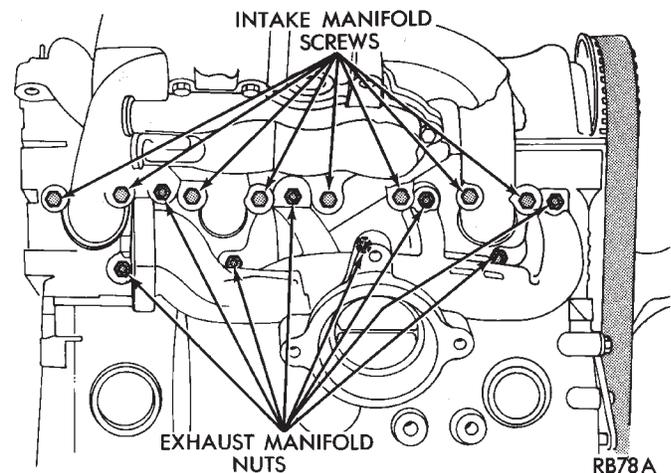

Fig. 3 Intake and Exhaust Manifold Attaching Points—2.2/2.5L Engines
- (2) Disconnect negative battery cable. Drain cooling system. Refer to Cooling System, Group 7 for procedure.
- (3) Remove air cleaner and disconnect all vacuum lines, electrical wiring and fuel lines from throttle body.
- (4) Remove throttle linkage.
- (5) Loosen power steering pump and remove belt.
- (6) Remove power brake vacuum hose from intake manifold.
- (7) Disconnect EGR tube from intake manifold and remove water hoses from water crossover.
- (8) Raise vehicle and remove exhaust pipe from manifold.
- (9) Remove power steering pump assembly and set aside.
- (10) Remove intake manifold retaining screws (Fig. 3).
- (11) Lower vehicle and remove intake manifold.
- (12) Remove exhaust manifold retaining nuts (Fig. 3).
- (13) Remove exhaust manifold.
- (1) Install a new intake and exhaust manifold gasket. Coat steel gasket lightly with Gasket Sealer on manifold side. **Do not** coat composition gasket with (any) sealer.
- (2) Set exhaust manifold in place. Tighten retaining nuts starting at center and progressing outward in both directions to 23 N•m (200 in. lbs.) torque. Repeat this procedure until all nuts are at specified torque.
- (3) Set intake manifold in place.
- (4) Raise vehicle and tighten retaining screws starting at center and progressing outward in both directions to 23 N•m (200 in. lbs.) torque (Fig. 3). Repeat this procedure until all screws are at specified torque.
- (5) Reverse removal procedures 1-9 for installation.
- (6) With the DRB II use ASD Fuel System Test to pressurize system to check for leaks.